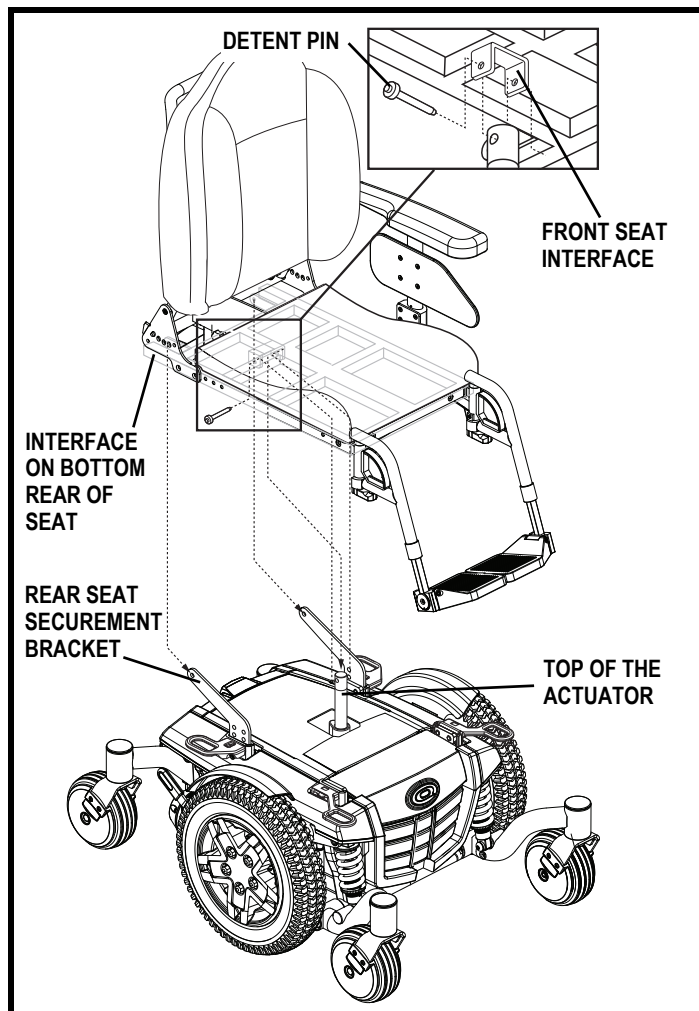

Figure 7. Mounting System and Contour Seat
1. Tilt the seat back and align the interfaces on the bottom rear of the seat with the rear seat securement brackets on the power base and secure with the hardware. See figure 7.
2. Remove the detent pin from the front seat interface. See **figure 7**.
3. Pivot the seat rearward and remove the seat from the power base by removing the hardware that attaches the rear seat securement brackets to the interfaces on the bottom of the rear of the seat. See **figure 7**.
8. Reinstall the front seat interface to the top of the tilt actuator using the detent pin. See **figure 7**.